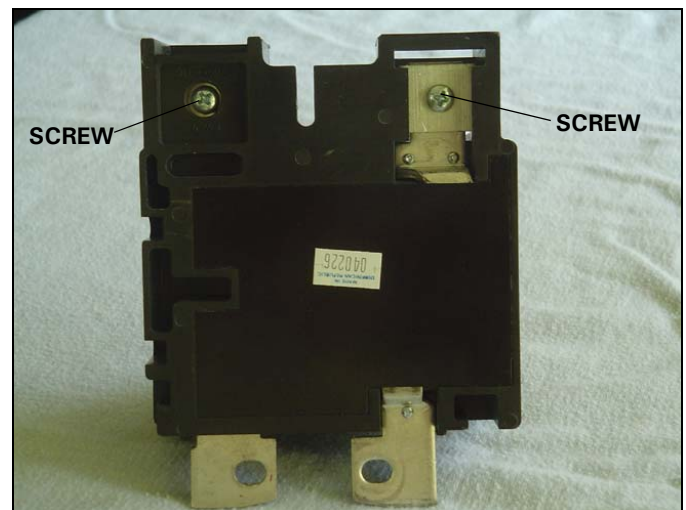

Figure 49. Location of the Screws Securing the Lugs to the Stabs.
Step 3: Working from the rear of the generator breaker, remove the two (2) screws securing the lugs to the stabs using a Phillips screwdriver (See fig. 49)